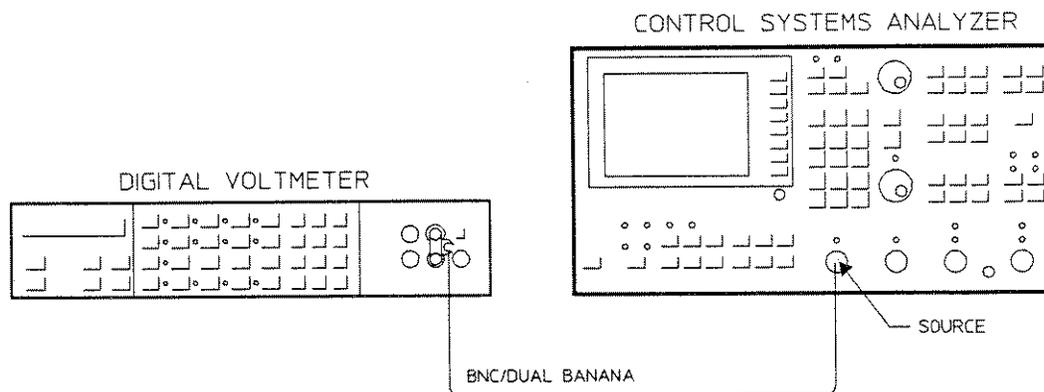

Figure 4-29. Source Residual Offset Test Setup
1. Connect the test instruments as shown in Figure 4-29.